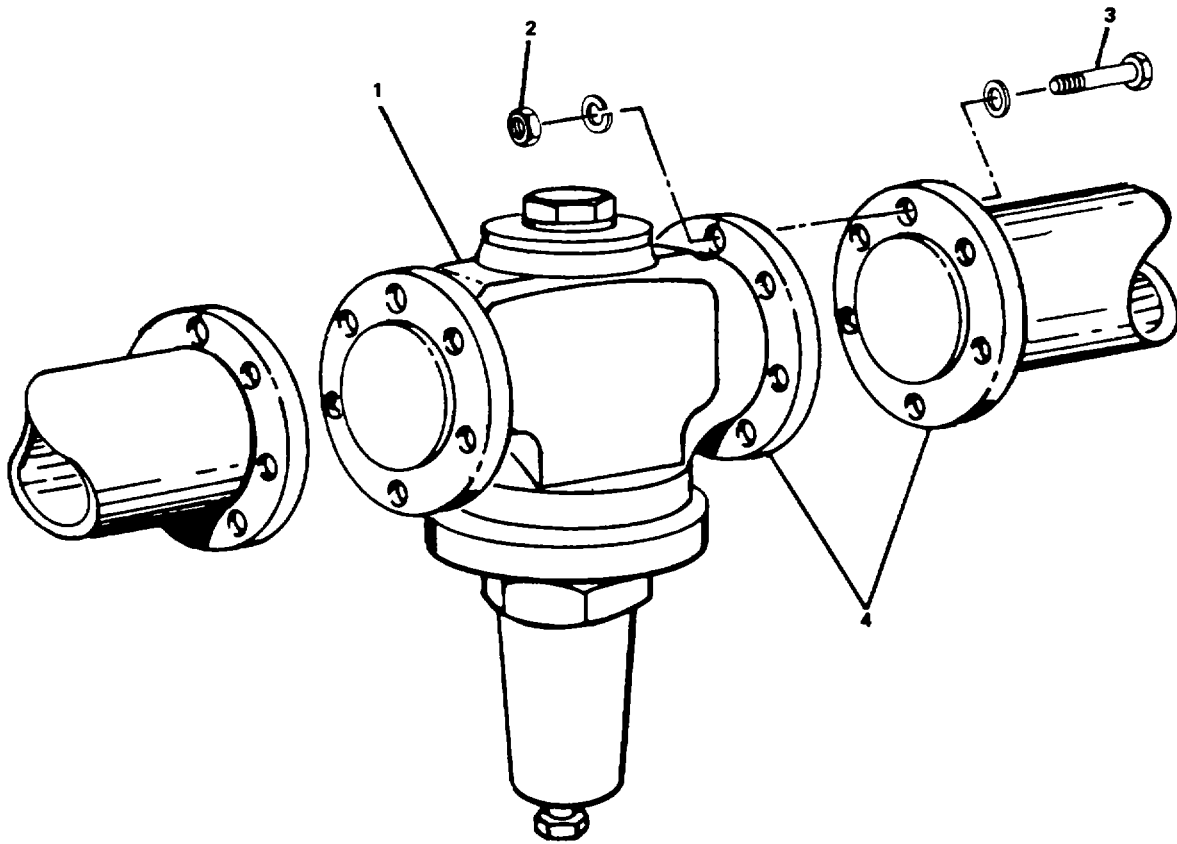

Figure 2-96. Replace Pressure Reducing Valve, 3-Inch.
- b. Remove nuts (2, Figure 2-96) washers, and bolts (3) from flanges (4).
- c. Remove valve (1).